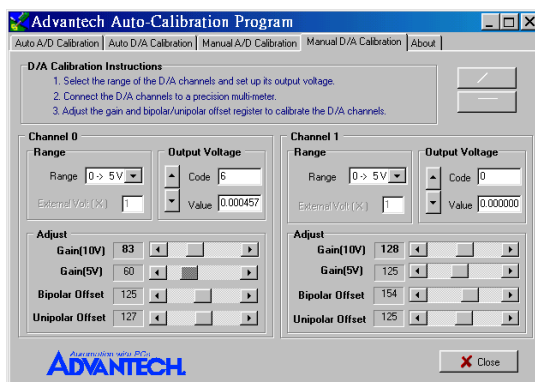

Figure 5-19: Adjusting registers
Step 3: According to the difference between the output voltage from D/A channel and the value in the multimeter, adjust the gain, bipolar offset and unipolar offset registers (Fig. 5-19)